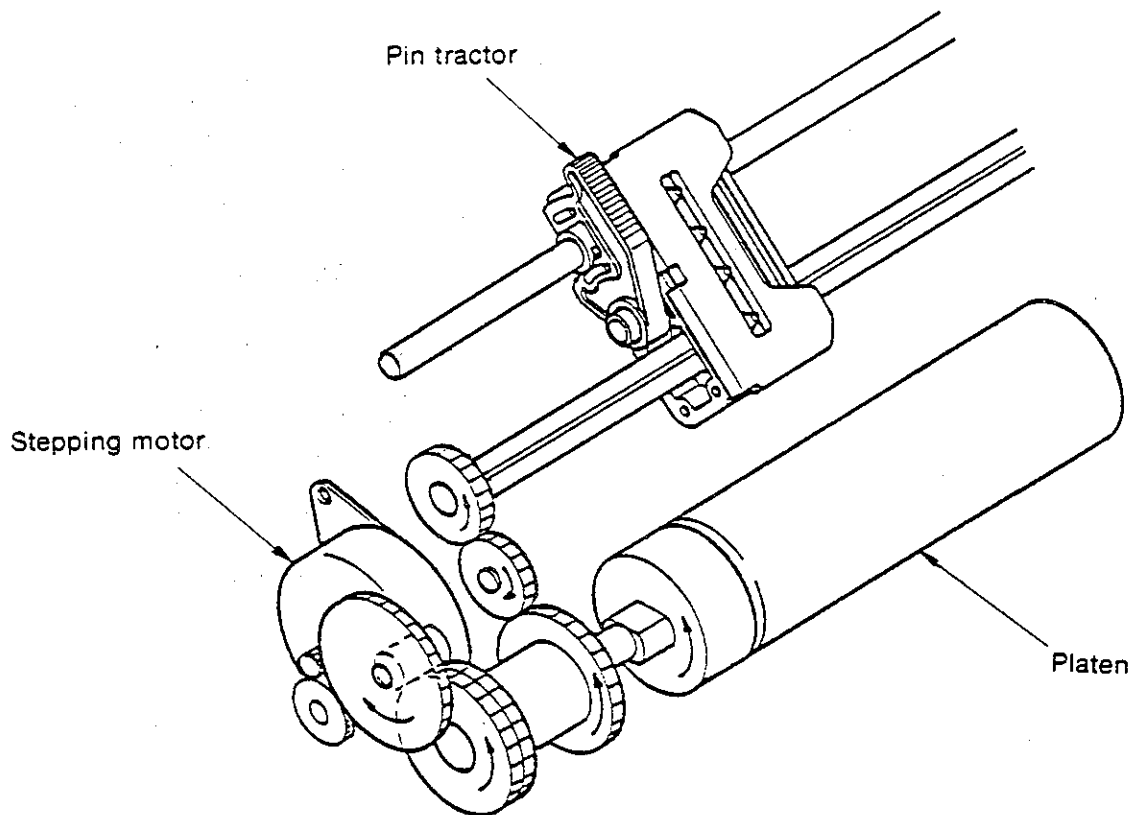

Figure A-9 Paper feed mechanism
(1) Paper feed operation (See Figure A-9)